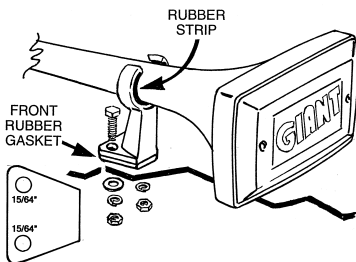

Fig. 2
2. Secure the horn to the vehicle using the hardware provided. Tighten screws evenly to prevent damage to the horn. See fig. 2. **IMPORTANT:** Be sure to use the rubber gasket to protect against water leaks.
COMPRESSOR and TANK INSTALLATION (Fig. 2):